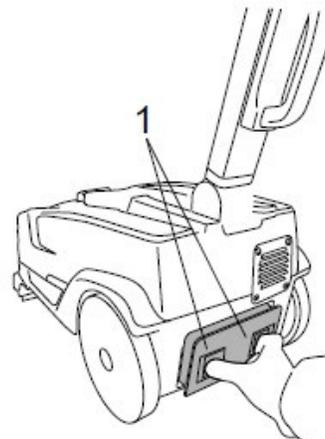

Fig. 13A
Press the two sliding release catches and remove the battery from its housing (fig. 13A, ref. 1).